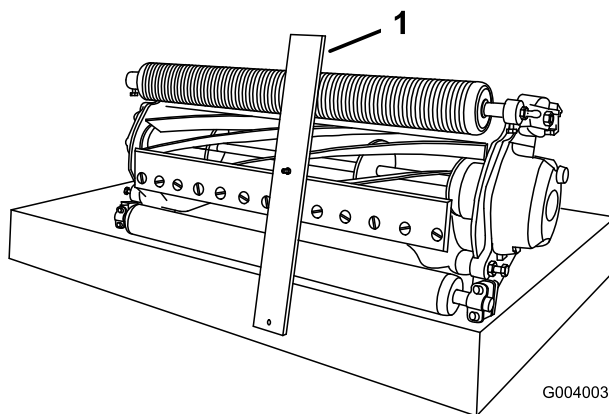

Figure 56
3. Hook screw head on cutting edge of bedknife and rest rear end of bar on rear roller (Figure 56).